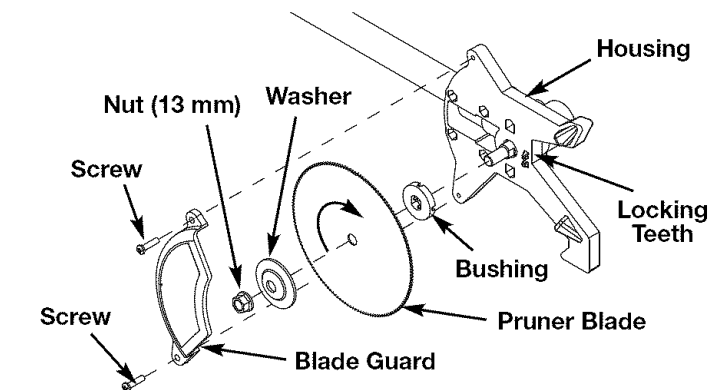

Fig. 9
1. Use the provided Allen wrench to remove the screws holding the blade guard in place (Fig. 9).
1. Place the pruner blade on the shaft making sure that the bushing is already in place and that the directional arrow on the blade is oriented as shown in Figure 9.